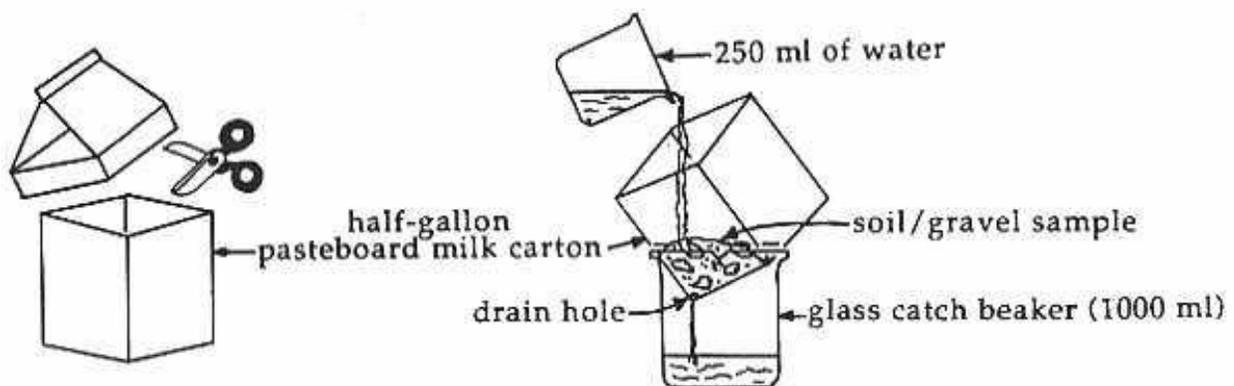

Figure 1. Experimental set-up.
Cut off the tops of the milk cartons, leaving about 6 inches remaining; use the nail to poke a hole in ONE CORNER of the carton bottom from the inside. Fill the cartons to a depth of one inch with the materials to be tested; one type per carton. Place each carton on top of a 400 ml beaker with the drain hole down. See Figure 1 on the student sheet. Mark the catch beakers up one inch from the bottom with the grease pencil and slowly add 250 ml of water to each carton. Have students record the data and perform the indicated calculations. See data tables.
4. Place each carton on top of a 400 ml beaker with the drain hole pointing down. See Figure 1.